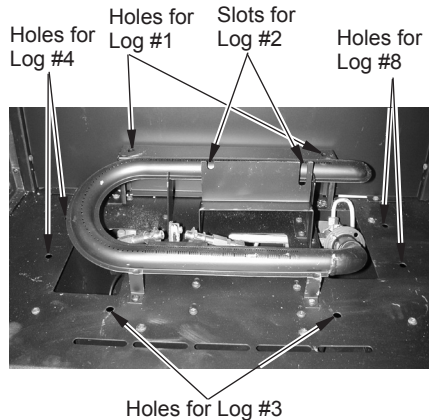
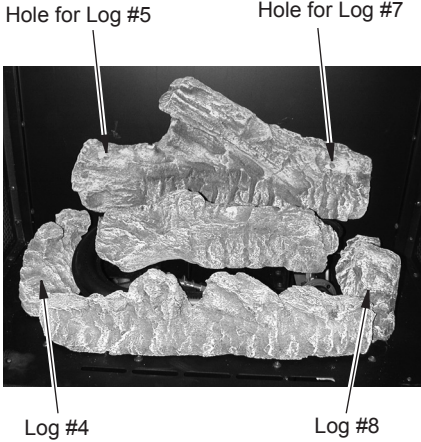

Figure 13 - Log Base and Chassis
Figure 15 - Logs #4 and #8
2. Place pins on log #1 into holes in rear bracket as shown in Figures 13 and 14.
3. Place pins on log #2 into slots in middle bracket as shown in Figures 13 and 14.
4. Place pins on log #4 into holes to the left of the burner as shown in Figure 13, page 15, and Figure 15.
5. Place pins on log #8 into holes to the right of the burner as shown in Figure 13, page 15, and Figure 15.
6. Place pin on log #5 into hole in the left side of log #1 as shown in Figures 15 and 16.
8. Place pin on log #7 into hole in the right side of log #1 as shown in Figures 15 and 16.